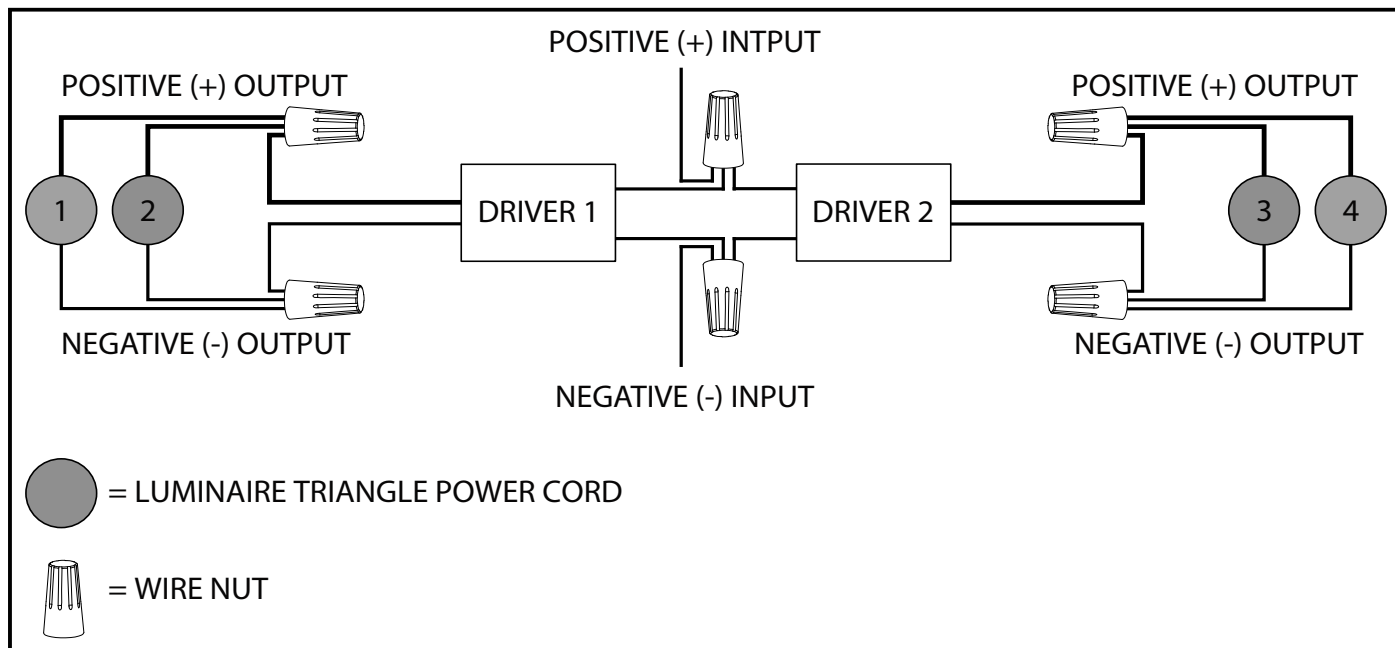

Fig. 1: Wiring Diagram 1884 (Small Arrow)
2. Carefully strip the outer jacket of the cord and keep the outer braided conductors intact (Fig. 1).